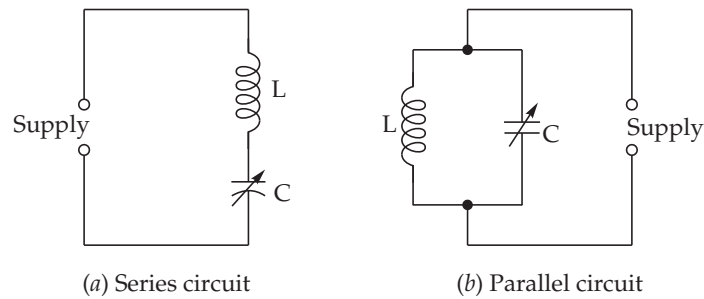

Fig. 1.28
(a) **Series LC Circuit** [Fig. 1.28 (a)]. In which an inductance (L) and a capacitance (C) are connected in series.
(b) **Parallel LC Circuit** [Fig. 1.28 (b)]. In which, the inductance (L) and capacitance (C) are connected in parallel.